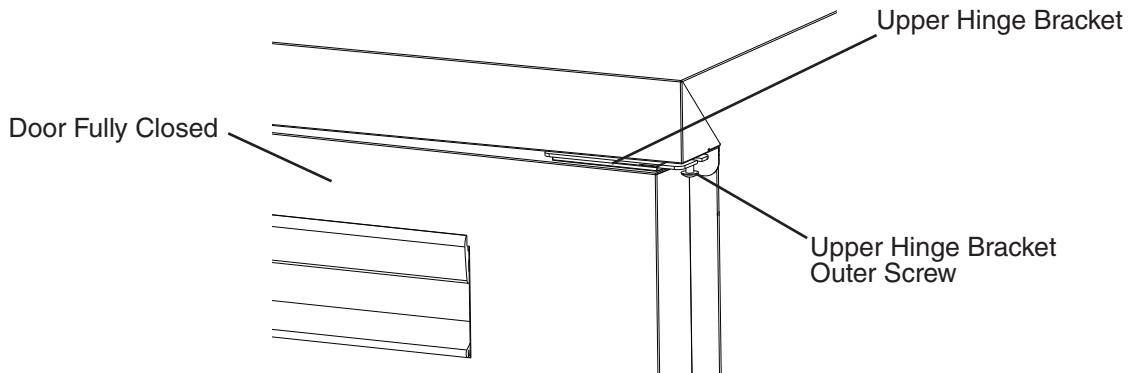

Fig. 28
18) Close the door and tighten the upper hinge bracket outer screw. See Fig. 28.